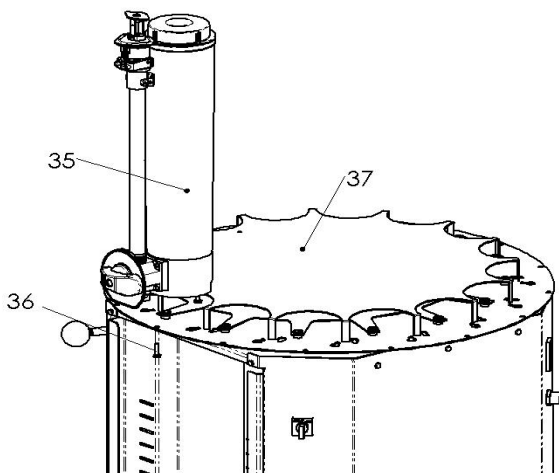
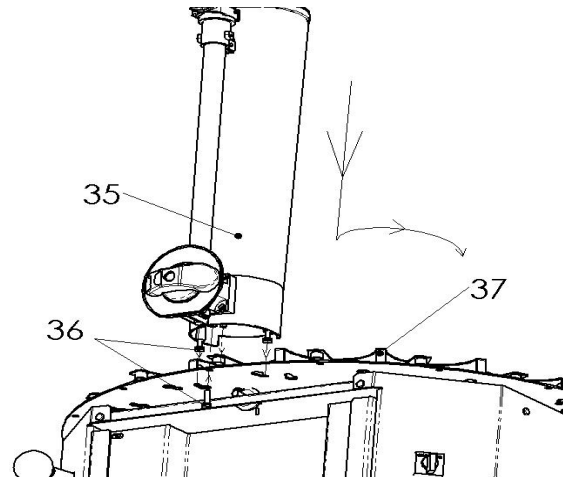

Figure 3-2
Figure 3-3
- 1) Remove Cover Panel (37) from packaging, taking care not to cause damage.
- 3) Remove Canister Assembly (35) from packaging.
- 4) Working at the front of the unit (Figure 3-2), with the Carousel Index Lever locking the Carousel, locate the Agitation Rod of the Canister (35) into the plastic bushing of the Agitator Plate, next locate the two screws (36) found in the base of the Canister Assembly in the slots in the Turntable and turn slowly in an anticlockwise direction.
- 5) Fasten the two screws (36) x 2 using a 10 mm nut driver or 10 mm spanner or cross-head screwdriver, depending on screws supplied.
- 6) Insert a third screw (36) x 1 (Figure 3-3) into the front of the Canister to hold it in place securely and fasten in as above.